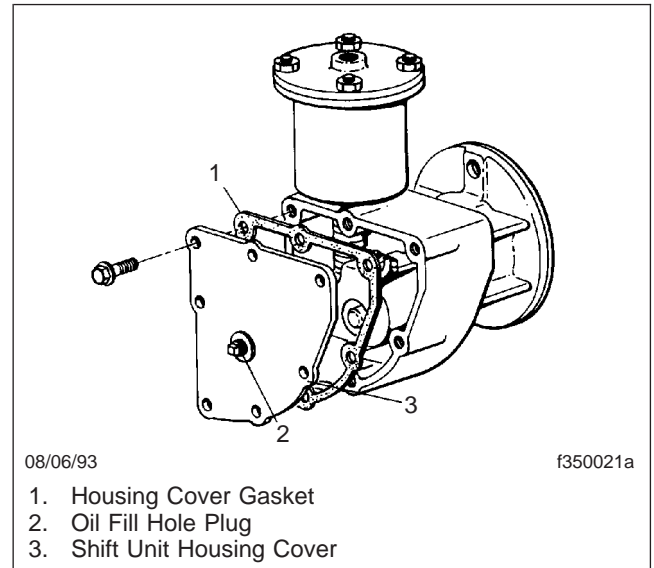

Fig. 2, Two-Speed-Axle Shift Unit
1. Clean the oil fill hole plug in the shift unit housing cover, and the area surrounding it. See Fig. 2. Remove the fill hole plug.
1. Remove the shift unit housing cover (see **Fig. 2**), and drain the old lubricant. Discard the housing cover gasket, and the old lubricant.